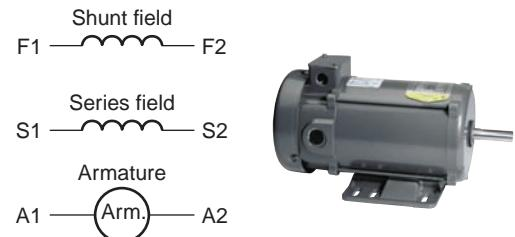

Figure 2-21 Parts of a DC compound motor.
Figure 2-21 shows the symbols used to identify the basic parts of a direct current (DC) compound motor.